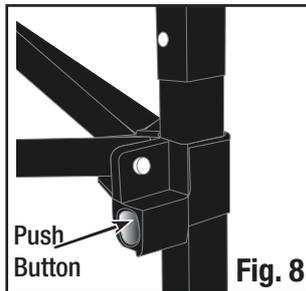

Fig. 8
- Press the push buttons found at upper corners of the frame. (Fig. 8) Collapse shelter frame and store in carry case.